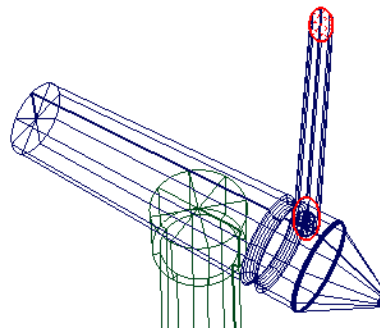

Figure 3-98 Planar surfaces created at the top and bottom of the blade
2. Select the top and bottom edges of the skin surface (or two ellipses) and then choose the **Go** button; the planar surfaces are created, as shown in Figure 3-98.